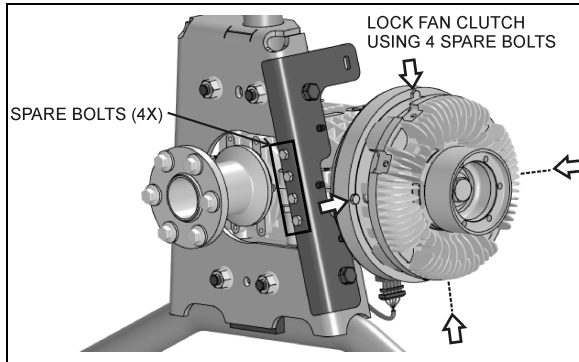

FIGURE 24: MECHANICAL LOCKING
3. Unscrew and remove the 4 spare M6x12 hex bolts screwed to the angle on the fan gearbox mounting support (**FIGURE 24**).